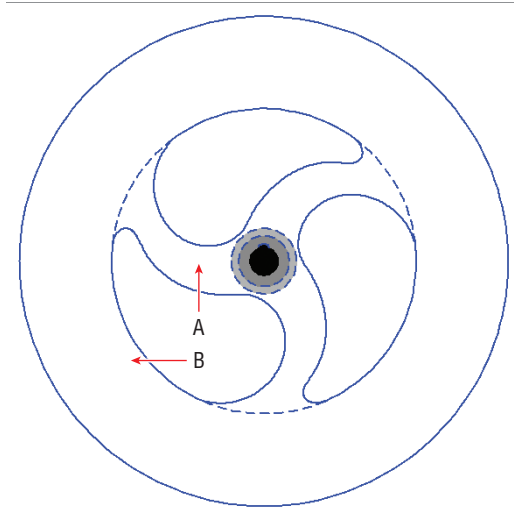

FIGURE 8.6 Picking points on the rotor
16. Click the Hatch tool on the Draw panel, and then click point A in Figure 8.6.
20. Type **H** (for Hatch), and press Enter. Click point B in Figure 8.6. The command prompt reads: